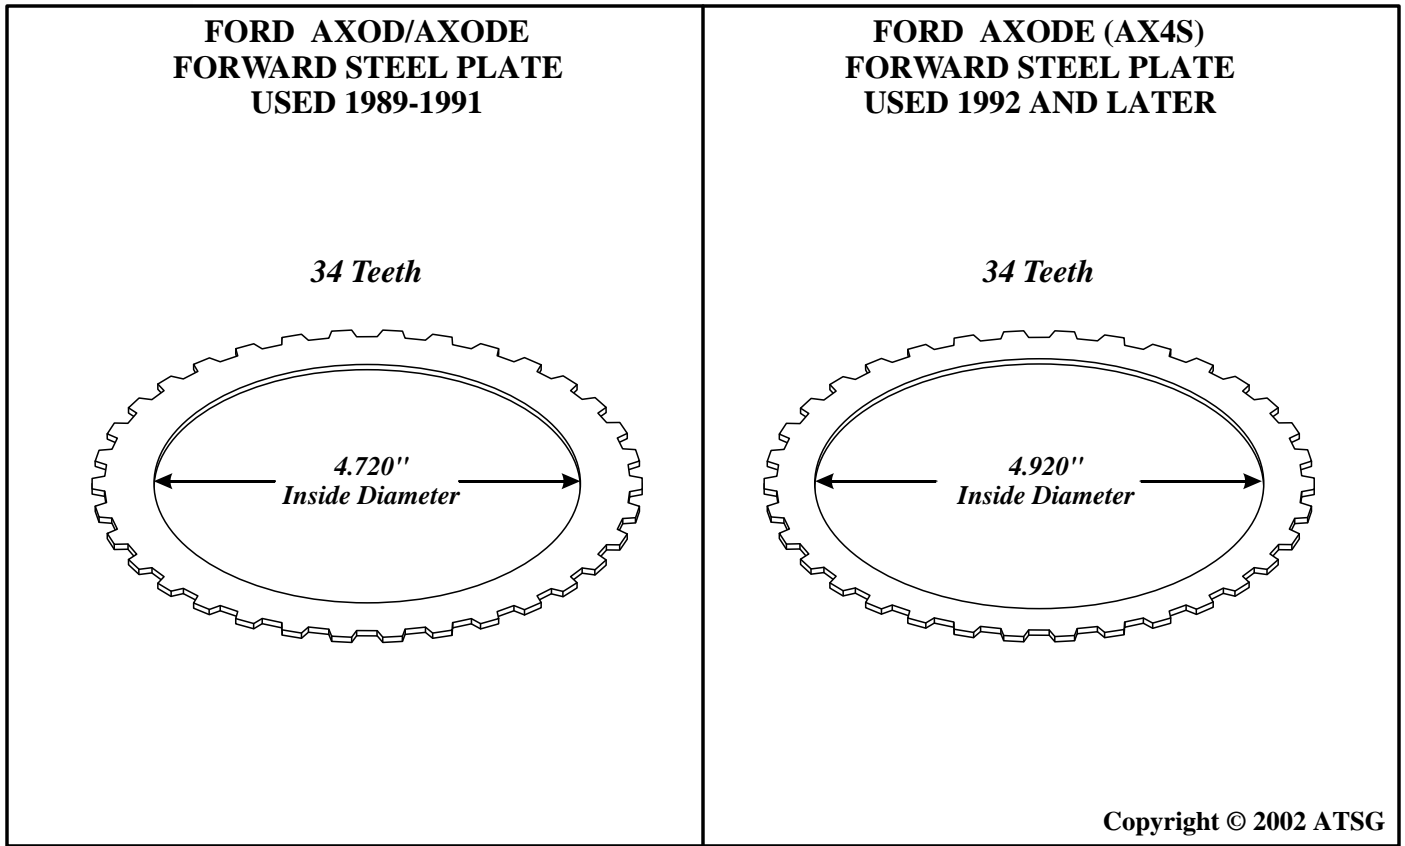

Figure 59
- (3) FORWARD CLUTCH STEEL PLATES - Have an increased inside diameter to 4.920" from the previous 4.720", to accommodate the increased diameter of the sprag outer race, as shown in Figure 59.